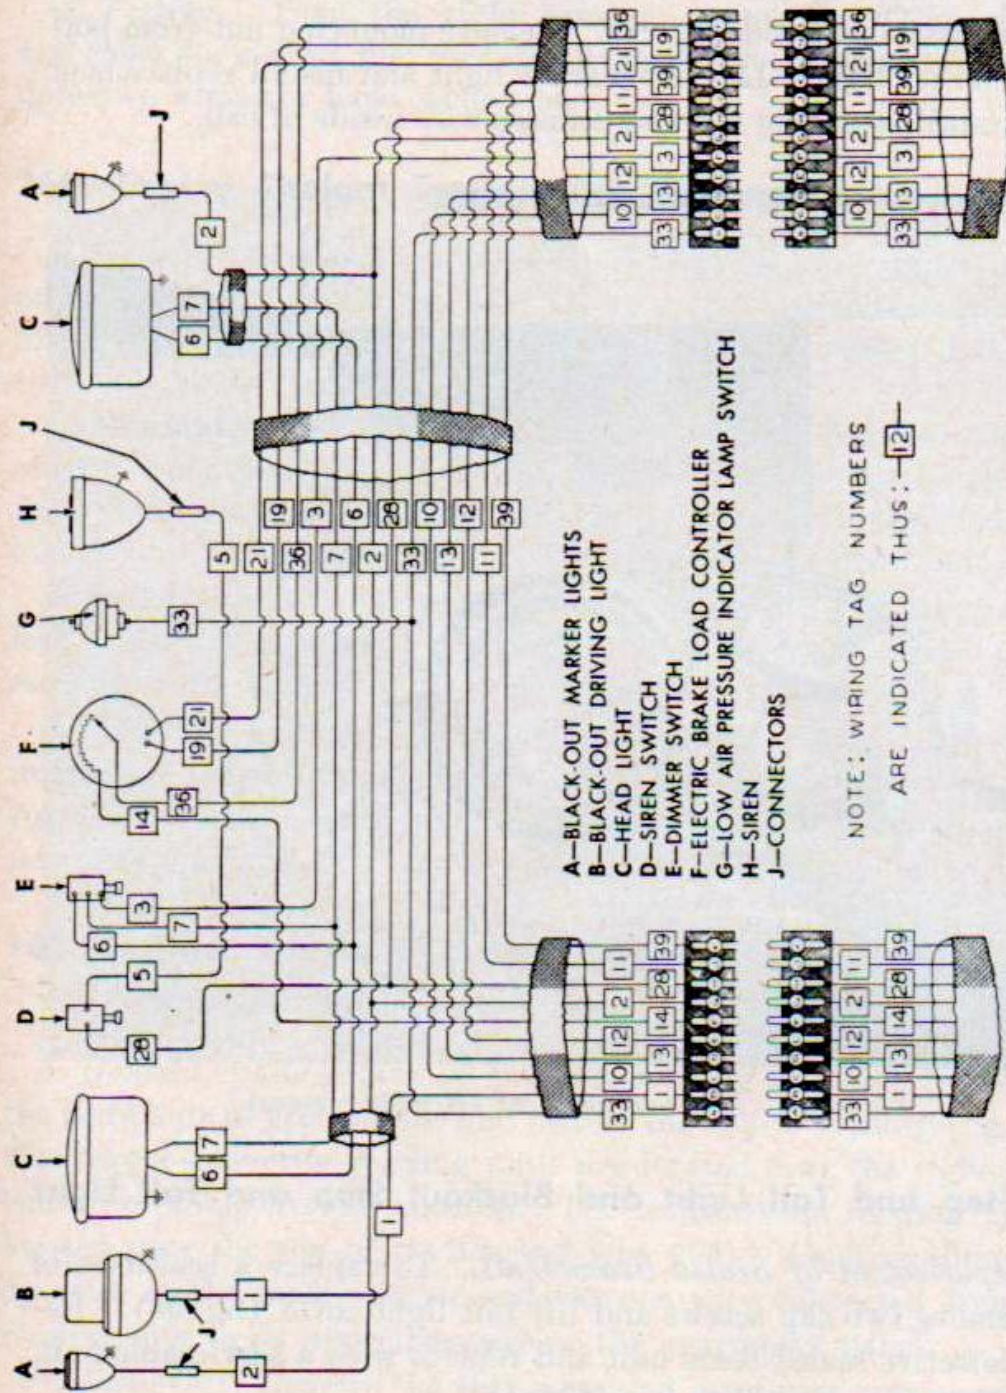

Figure 97. Wiring diagram for hull front section.
a. Description. Figures 97 and 98 are schematic diagrams of the complete wiring system of the tractor. The various electrical units and accessories are shown in their relative location when installed in the tractor. All the wires in the tractor, with the exception of the spark plug wires, have tags wrapped around them at each end, with numbers on the tags corresponding to the numbers in the drawings to designate which wires are to be connected to the various units. Groups of wires are bound in looms. The wires in each harness are connected to coupling blocks for insertion into the electrical junction blocks or boxes, which are so constructed that the plugs can only be inserted one way. These junction boxes and blocks provide for quick disconnection when disassembling the vehicle.
- (1) *Repair.* A broken wire may be spliced by stripping about an inch of insulation off both broken ends of the wire and twisting the ends tightly together. Then wrap several thicknesses of friction or rubber tape around spliced section for insulation. If insulation is worn off or frayed from rubbing on metal, wrap the frayed or bare wire with tape.
- (2) *Replacement.* Replacement of wires is seldom necessary unless the wires are destroyed by fire or like causes. When replacing any or all of the wires, remove the numbered metal tags from the wires removed and install them on the corresponding new wires, unless the new wire already has a tag with the same number on it. Be sure to tighten terminal connections firmly when installing wires.